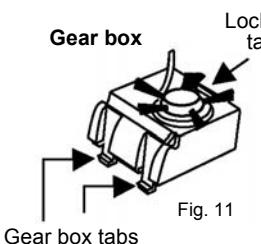

Fig. 11
4. Push in on the locking tab of the gear box and lift gear box to remove. (Fig. 11 & 12)
2. Push in on the locking tab of the gear box and lift gear box to remove. (Fig. 11 & 12)